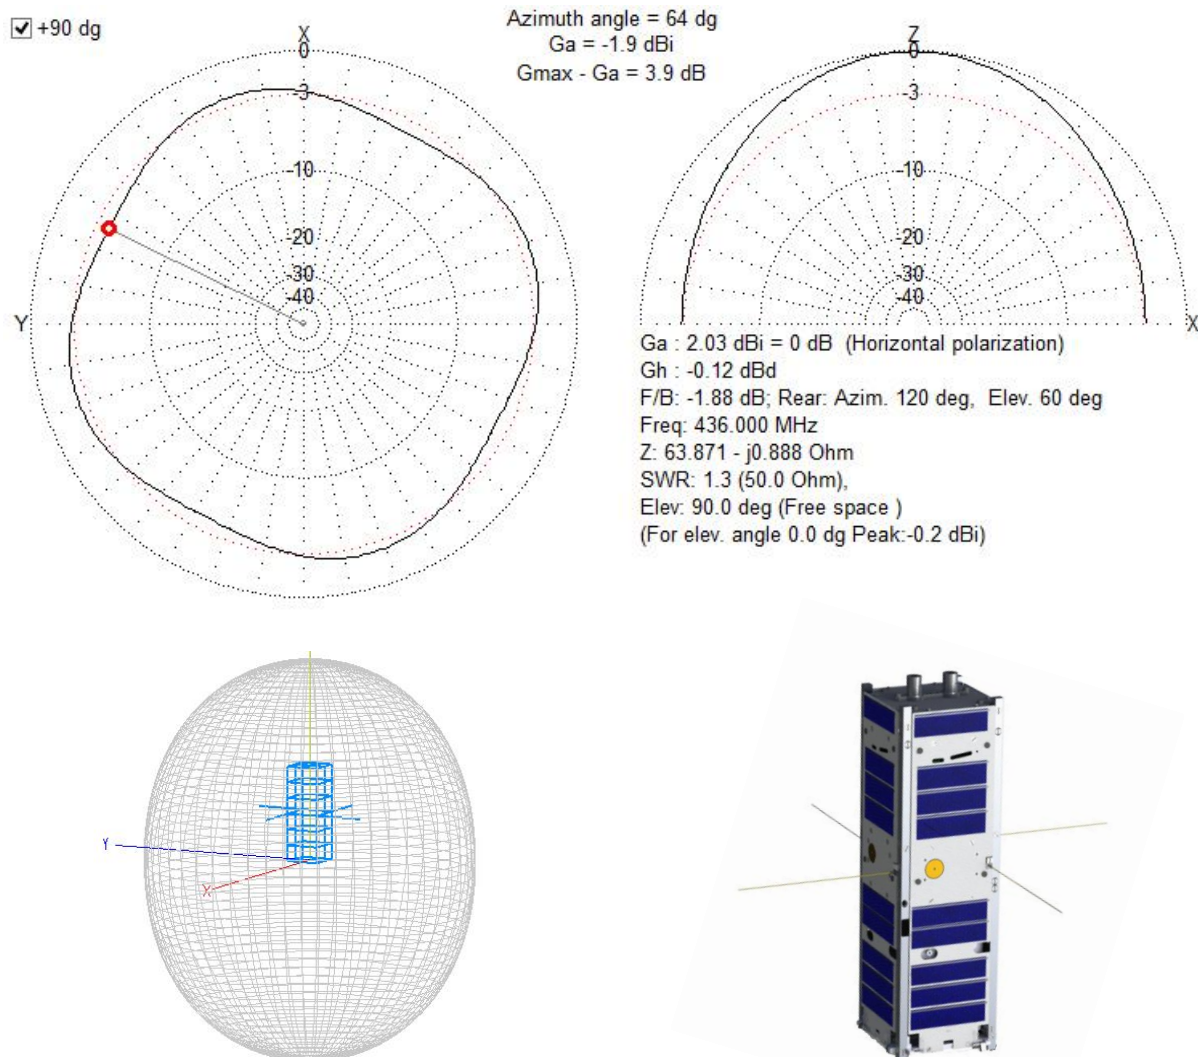

Figure 2. Simulated gain plot for LituanicaSAT-2
The actual gain characteristics are always satellite specific. Below in Figure 2 is a simulated plot for a LituanicaSAT-2 3U satellite with the turnstile UHF antenna array (antennas are 90 degrees to the long axis). The highest gain (2.03 dBi) is along the long (Z) axis of the CubeSat with lower gains (-1.9 to -0.2 dBi) along the X- and Y-axes.